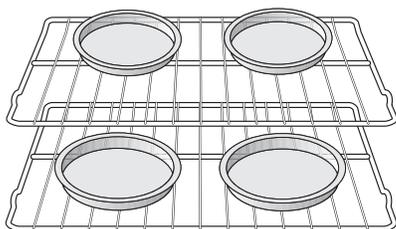

Figure 9: Baking on multiple levels
- For best results when baking cakes or cookies using two oven racks, place pans as shown in Figure 9.